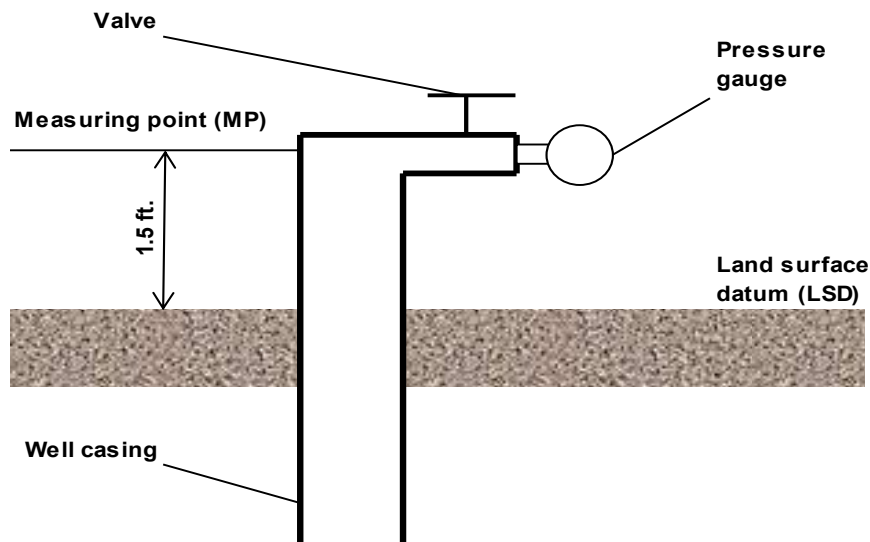

Figure 5. Flowing well – Pressure Gauge method of measurement for groundwater levels (not to scale).
- 2) Install a pressure gauge with hose bib to the discharge point, this is the measuring point (MP).
- 6) For flowing wells, the MP is *added* to the feet of water above the MP. For example (see Figure 5), if the feet of water above MP is 35.2 and the MP is +1.5, the calculation is $35.2 + (+1.5) = 36.7$ feet.